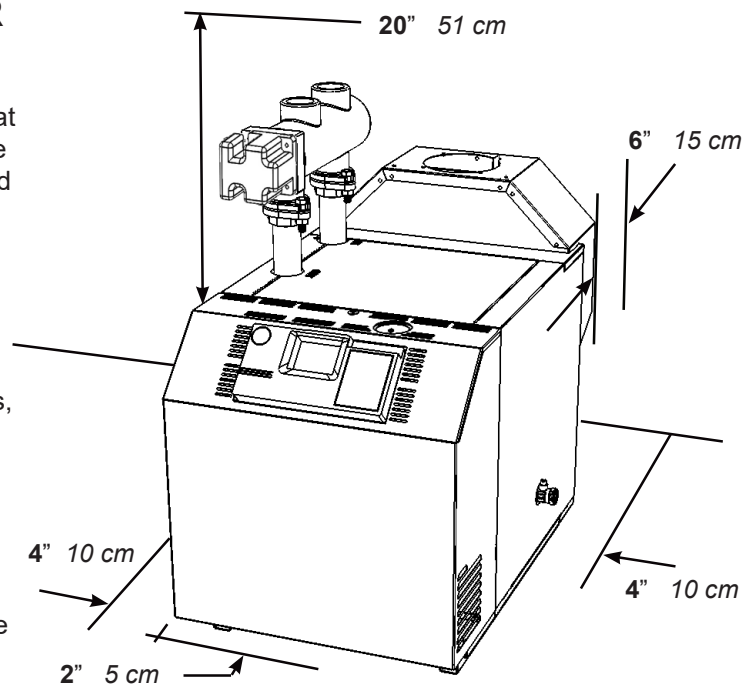

Figure 3. Minimum Clearances
1. This boiler is designed for indoor installations only and should be located to provide clearances on all sides for maintenance and inspection. See Figure 3. It should not be located in an area where leakage of any connections will result in damage to the area adjacent to the unit or to lower floors of the structure. When such a location is not available, it is recommended that a suitable drain pan, adequately drained, be installed under the unit.
4. Boilers can be installed in a closet as long as all minimum clearances are followed, including between the front of the boiler and the closet door when it is closed. See Figure 3. Consult the American National Standard Z21.13 for more information concerning closet installations. In Canada, refer to the latest edition of CSA-B149.1.